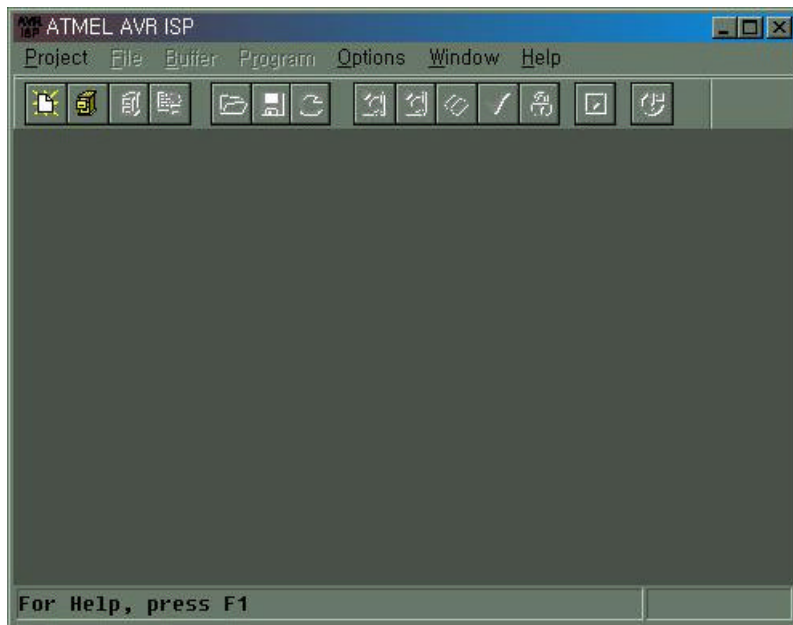

Fig 3.9
(2) Instructions:
① Go to start START → PROGRAM → Atmel AVR Tools → Atmel AVR ISP. The following screen appears.(Fig 3.9)